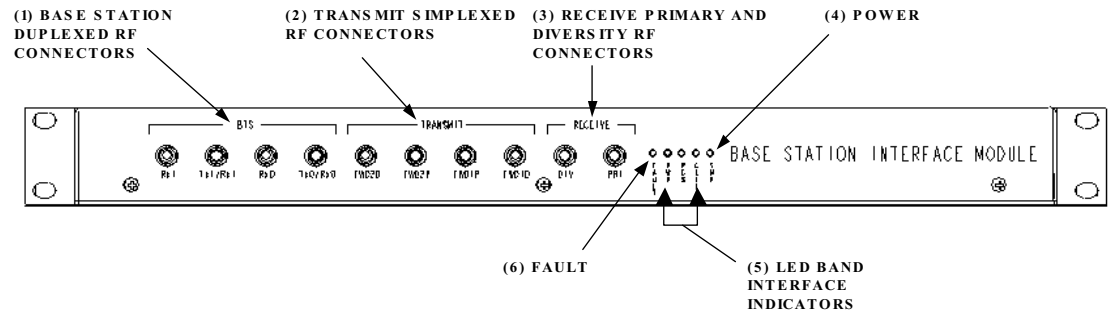

Figure 2-23. BTS Interface Module
The BIM, shown in Figure 2-23, is a 1RU module that mounts into the HUB Base Rack. There are four (4) BIM types depending on the frequency band to be supported: Cellular, SMR A, SMR B, or PCS. The references for the BIM front panel are shown in Table 2-17.